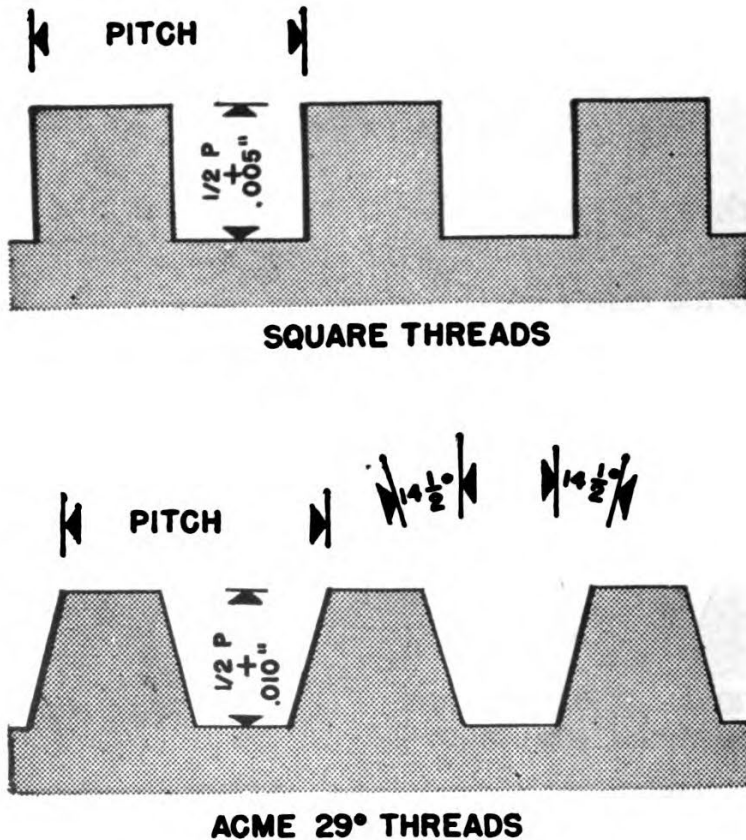

Figure 78.—Square and Acme threads.
**SQUARE THREADS**, fig. 78, are strong and efficient. They are cut by machine. You'll see them in use as the tightening screw of vises, clamps, and jacks, and they are used on gun mounts, too.